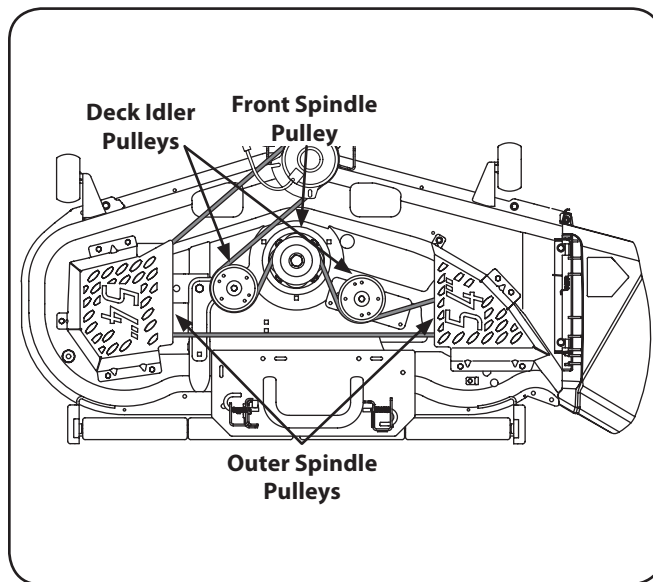

Figure 7-8
5. To place the new belt, begin by routing the belt around the two outer spindle pulleys, then around the front spindle pulley as shown in Figure 7-8.
6. Route the belt around the two deck idler pulleys as shown in Figure 7-8.